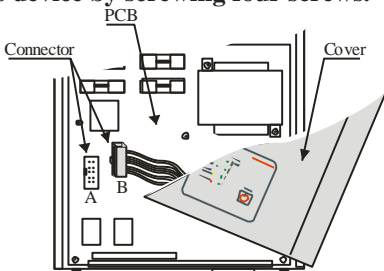

Fig. 4
- **Connect the plug B to A connector according to Fig. 4 and mount the cover of this device by screwing four screws.**
- Thread the battery wires through the hole in the box pos.2
5. Connect the plug B to A connector according to Fig. 4 and mount the cover of this device by screwing four screws.